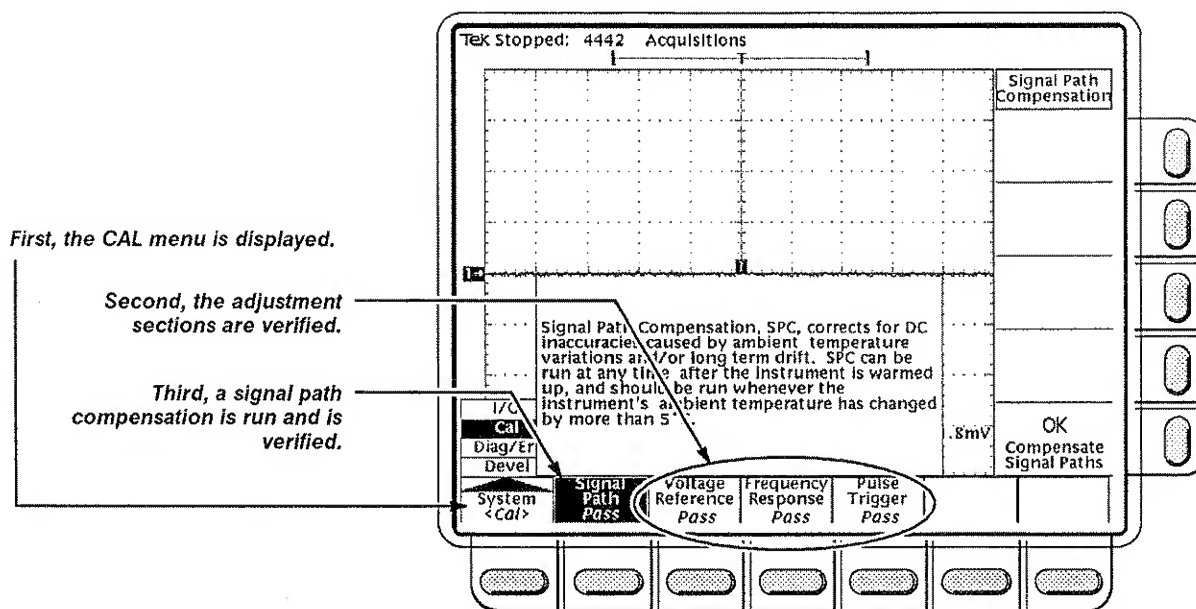

Figure A-2: Verifying Adjustments and Signal-Path Compensation
- Verify that the word **Pass** appears in the main menu under the following menu labels: **Voltage Reference**, **Frequency Response**, and **Pulse Trigger**. (See Figure A-2.)
- h. *Confirm signal-path compensation returns passed status:* Verify the word **Pass** appears under **Signal Path** in the main menu. (See Figure A-2.)